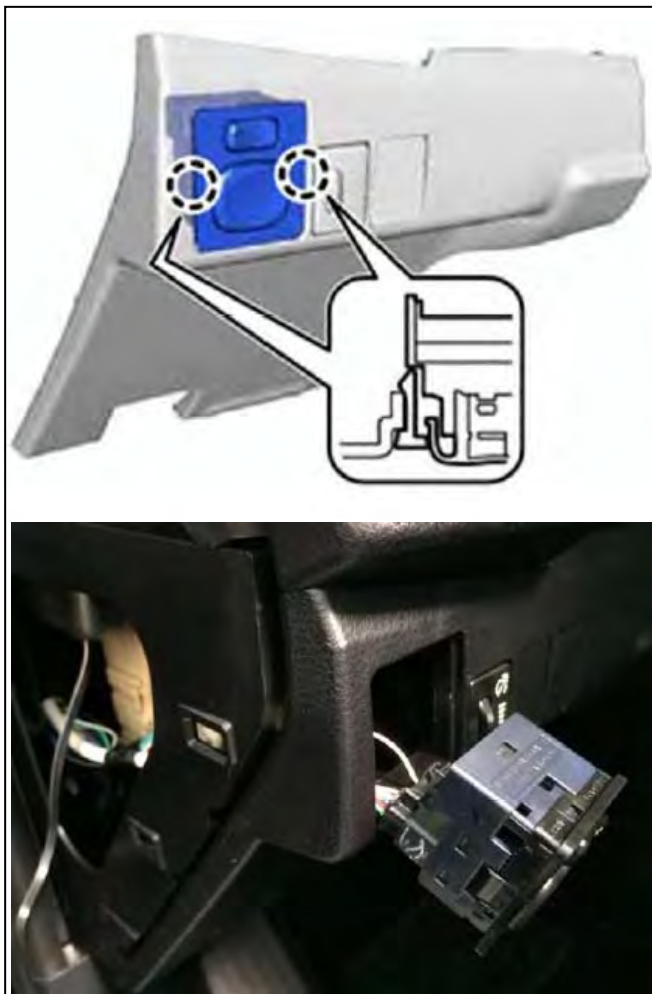

Figure 6
6. Disengage the 2 claws and remove the outer mirror switch assembly. See figure 6.